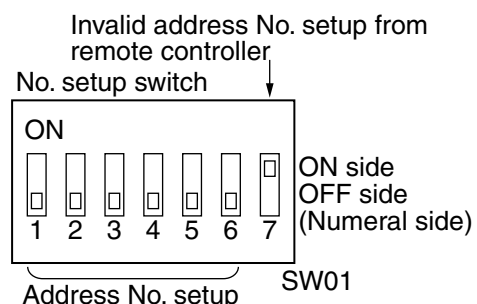

Fig. 2
- (1) Turn off the power.
- (2) Turn ⑦ of the address No. setup switch SW01 to ON side. Accordingly the address No. set on the remote controller is invalidated. (See Fig. 2.)